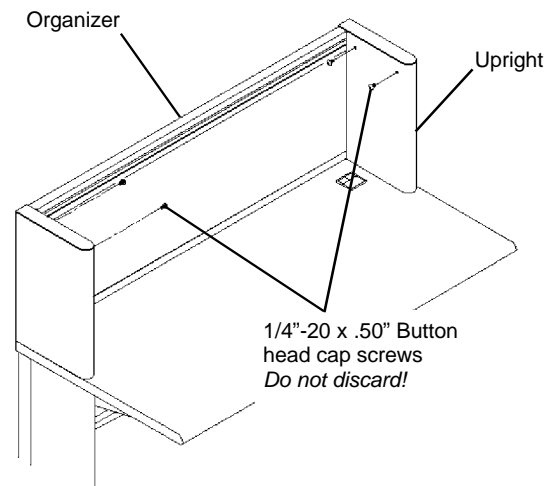

Figure 1
1. Using the 5/32" Allen wrench, remove the two 1/4"-20 x .50" Button head cap screws from the top inner surface of the uprights of each organizer receiving a **Reception Surface**. See **Figure 1**. Do not discard the screws; they will be used in Step 2.